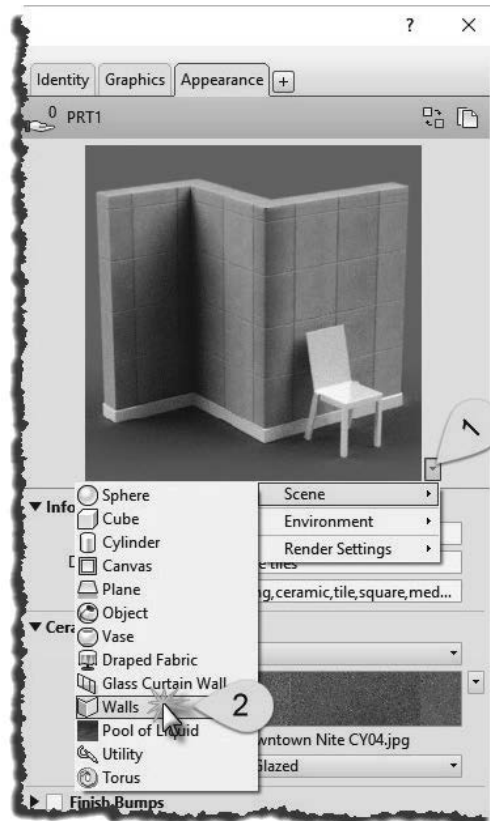

FIGURE 4-4.17 Changing preview image
68. Click the down-arrow next to the material preview and select **Walls** (Figure 4-4.17).